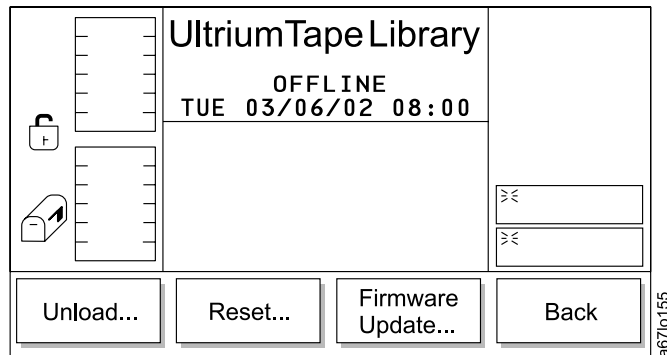

Figure 132. Drives Submenu
- If **Cancel** is selected, the Drives Submenu displays (see Figure 132).
- If **Cancel** is selected, the Drives Submenu displays (see Figure 132 on page 118).